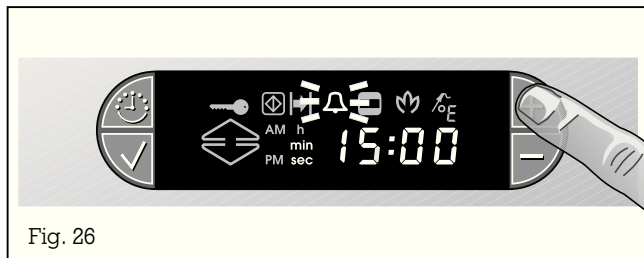

Fig. 26
- Press the + key. The short time symbol Δ flashes (Fig. 26).